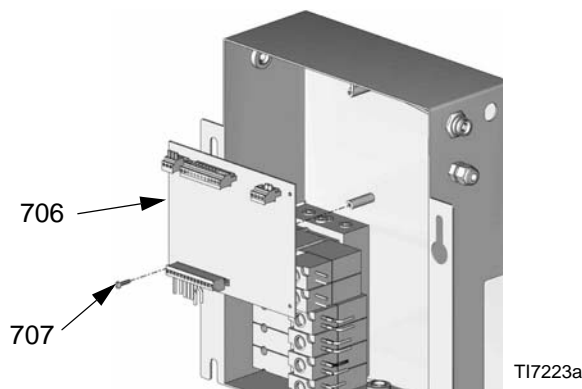
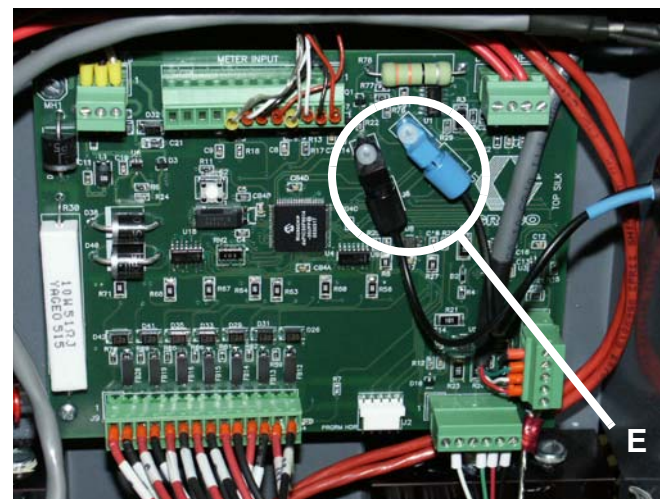

FIG. 21
FIG. 23: Wall Mount Fluid Panel Circuit Board
3. Disconnect fiber optic wires and all cables (J1, J3, J4, J5, J6, J9, J10) from control board (706). FIG. 21.
4. Remove 4 screws (707). Remove control board (706). FIG. 21. (RoboMix Fluid Panel not shown; use same procedure.)
5. Install new control board (706) with 4 screws (707).
6. Connect cables to control board (706). FIG. 23. Insert fiber optic cable connectors (J4, J6) into board connectors (E), matching blue with blue,
black with black, and hand-tighten connectors (E). FIG. 23 and FIG. 23.